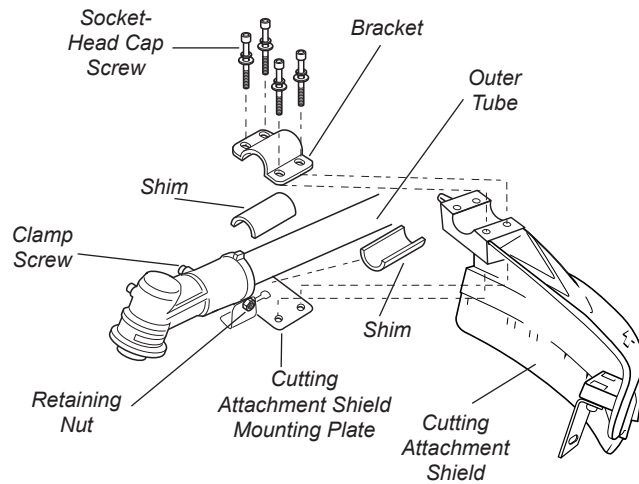

Figure 14
1. Insert the cutting attachment shield between the outer tube and the cutting attachment shield mounting plate. See Figure 14.
2. Fit the two shims and the bracket over the outer tube and loosely install the four socket-head cap screws. See Figure 14.